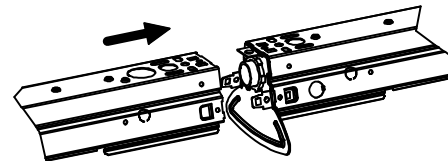

FIG 7: ROW MOUNT CONNECTION
- 3) Slide joiner assembly/endcap into fixture. Slide in next luminaire into joiner assembly as shown in FIG 7.